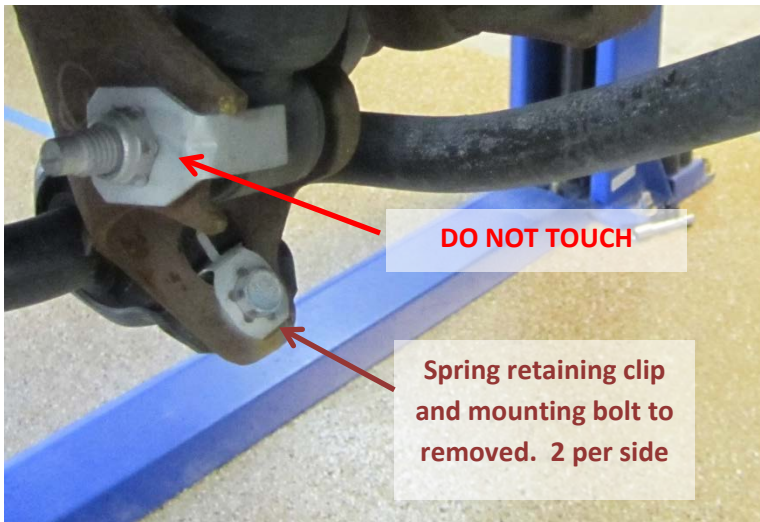

Figure 8
14. Remove the mounting bolts and retaining spring clips (they will not be used for new bar installation). See Figure 8.